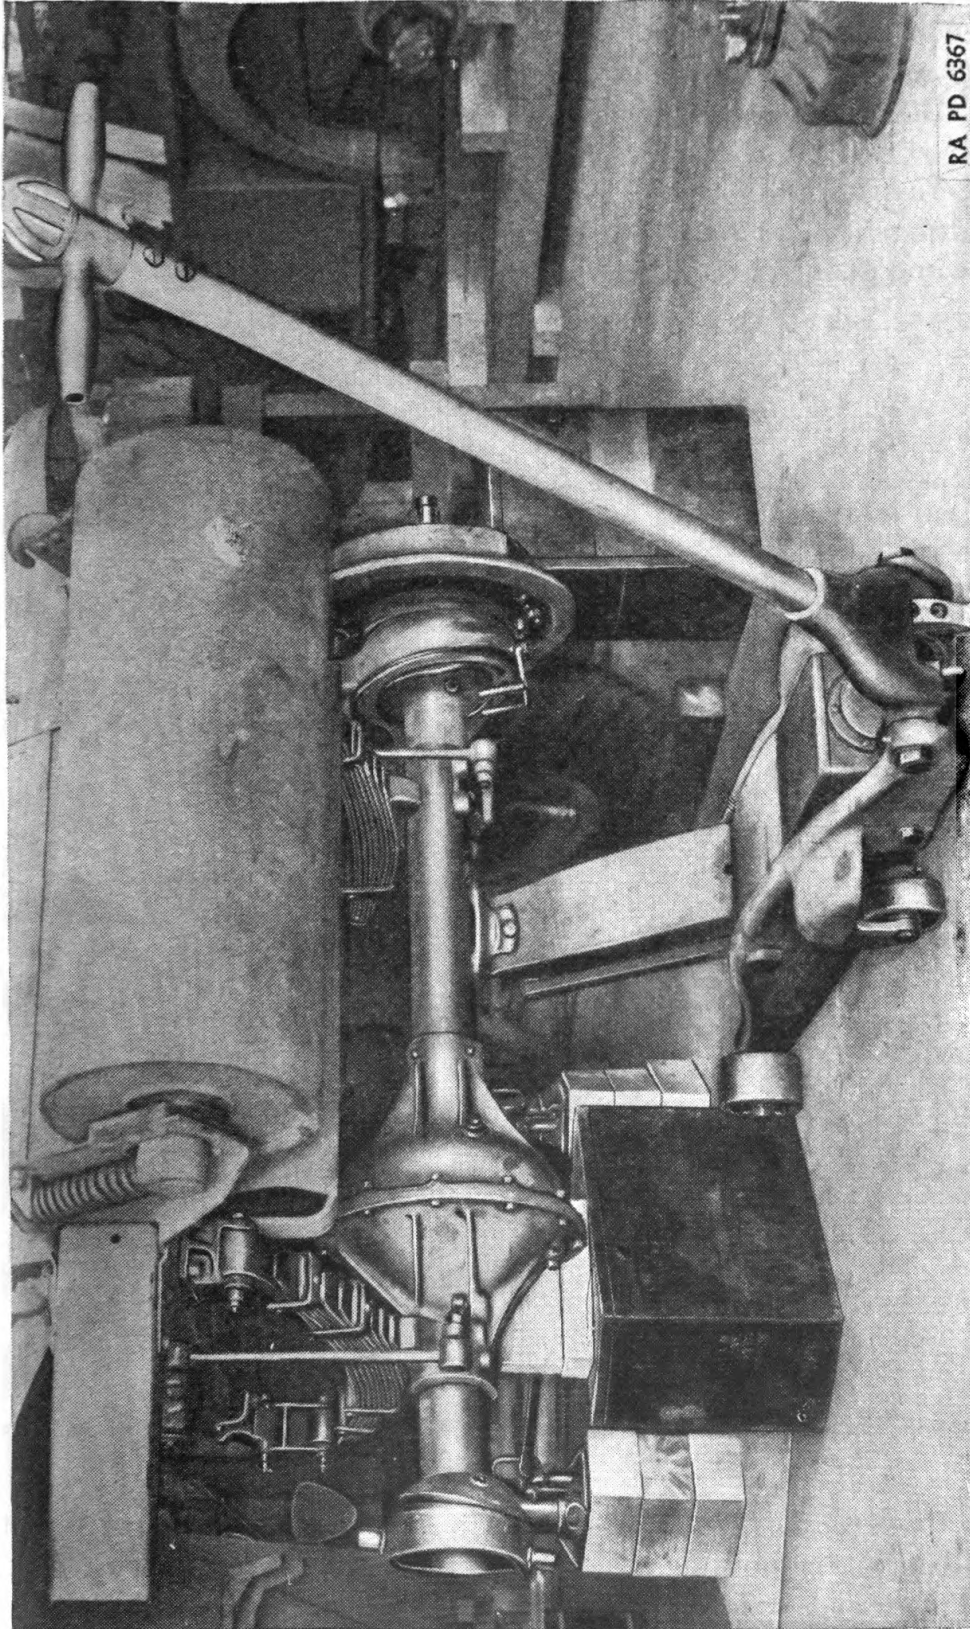

FIGURE 42.—Front axle installation.
(1) Replace ends— $\frac{15}{16}$ -inch socket wrench,  $\frac{7}{8}$ -inch open end wrench. Thread left- and right-hand ends onto cross tube. Replace clamp bolts, nuts, and lock washers, and draw up snug until vehicle is tested for "toe-in," after which they should be tightened down.
(2) Replace end stud assembly—screw driver, pliers. Insert stud seat, pin, retainer, stud, spring, and plug into bottom of tube ends, and lock these in position with locking ring.
(3) Install dust shields and top spring. Insert washer, dust seals, and outer spring over stud.
(4) Attach tie-rod assembly to axle—pliers,  $\frac{11}{16}$ -inch socket wrench. Install the tie-rod assembly on the axle and lock in position with nut and cotter pin.
*b.* Position axle to chassis—jack. Place axle under chassis in its approximate running position. Raise axle and make sure spring center bolt heads enter holes in axle spring seats (fig. 42).